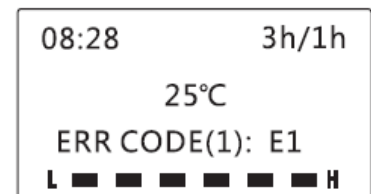

Figure 6-11
(4) Fault reset: when "ERR Code (1): E1" icon shown on LCD screen, as figure 6-11, check the fault code table, according to the excluded method, long press "  " button, Error code disappears.